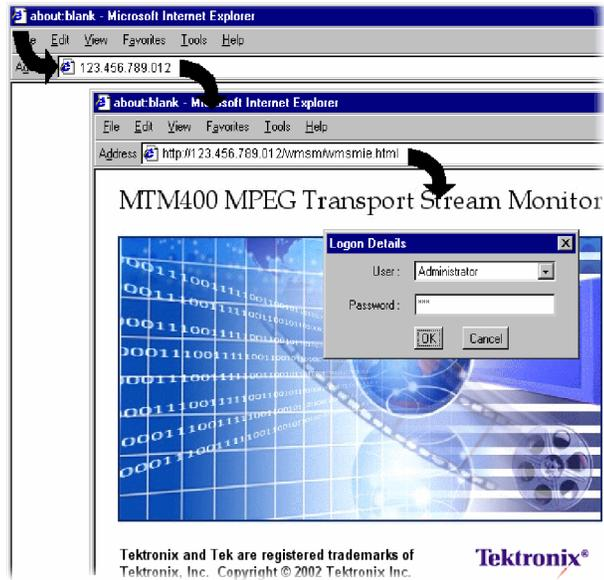

Figure 8: Logging on to MTM400 monitor
3. After the Java applet is downloaded, the MTM400 monitor splash screen will appear, and then be quickly overlaid by the Login Details dialog box (see Figure 8).